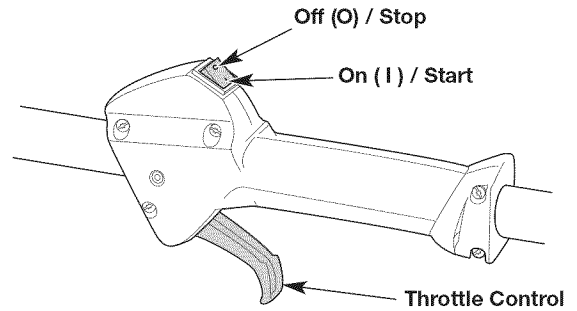
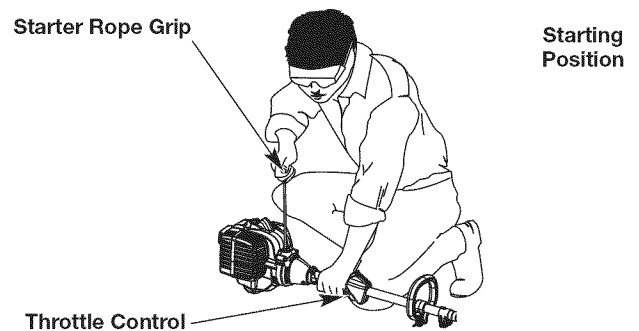

Fig. 6
Fig. 9
WARNING: Avoid accidentally starting the unit. To avoid serious injury, the operator and the unit must be in a stable position when pulling the starter rope (Fig. 9).
NOTE: There is no need to turn the unit on. The On/Off switch is in the ON (I) position at all times (Fig. 6).
5. Crouch in the starting position (Fig. 9).
6. **DO NOT** squeeze the throttle control (Fig. 6). Pull the starter rope with a controlled and steady motion until the unit starts (Fig. 9).
2. Press and hold the On/Off switch in the OFF (O) position until the engine comes to a complete stop (Fig. 6).
6. **DO NOT** squeeze the throttle control (Fig. 6). Insert the Speed Start™ accessory into the Speed Start™ port (Fig. 19). Refer to the *Operation* section of the Speed Start™ accessory operator's manual.